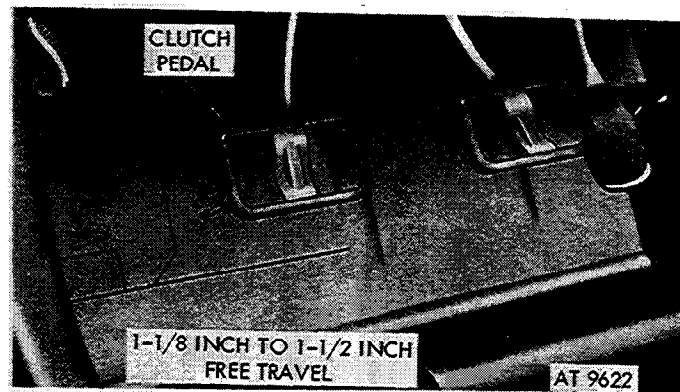

Figure 2-78. Clutch pedal free travel.
- (3) Depress clutch pedal and check for pedal free travel of  $1\frac{1}{8}$  inches to  $1\frac{1}{2}$  inches (fig. 2-78).